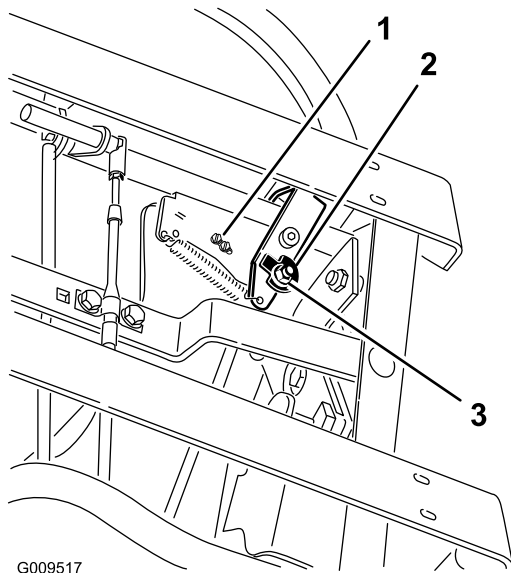
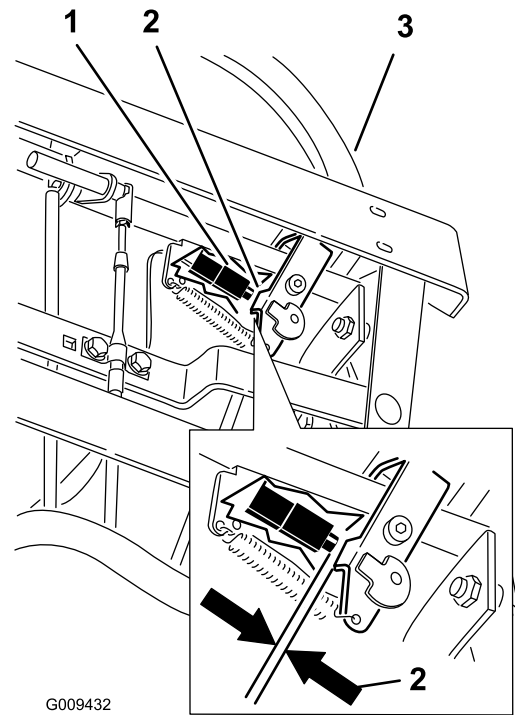

Figure 68
Figure 69
7. Loosen the nut and bolt holding the cam (Figure 68).
10. Check the gap between the control lever and switch as shown in Figure 69. The gap needs to be an 1/8 inch (3mm) with the right motion control lever in the neutral, unlocked position.
11. If needed, loosen the screws holding the switch and adjust the switch (Figure 68 and Figure 69).